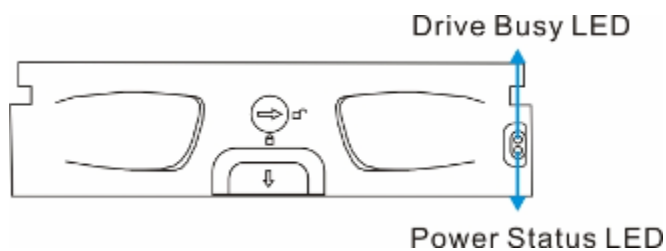

Figure 4-2: Drive Tray LEDs
Two (2) LED indicators are located on the right side of each drive tray. (See **Figure 4-2**) Refer to **Table 4-3** for the LED definitions. When notified by a drive failure message, you should check the drive tray indicators to find the correct location of the failed drive. Replacing the wrong drive can fatally fail a logical array.